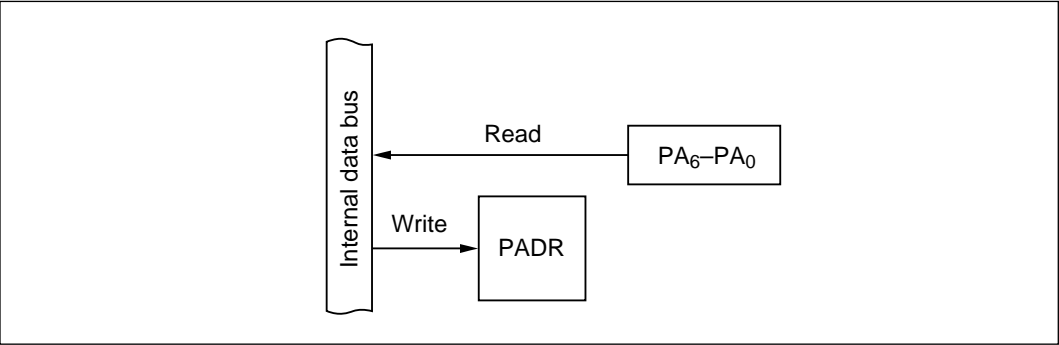

Figure 9-61 Input Port (Modes 1 to 7)
(1) Input Port (PA₆ to PA₄ in Modes 1 to 7; PA₃ to PA₀ in Modes 1, 2, 4, 6, and 7): Figure 9-61 shows a block diagram illustrating the general-purpose input function. Table 9-44 indicates register read/write data. Values written in the port A data register (PADR) have no effect on general-purpose input lines. When read, PADR returns the value at the pin.